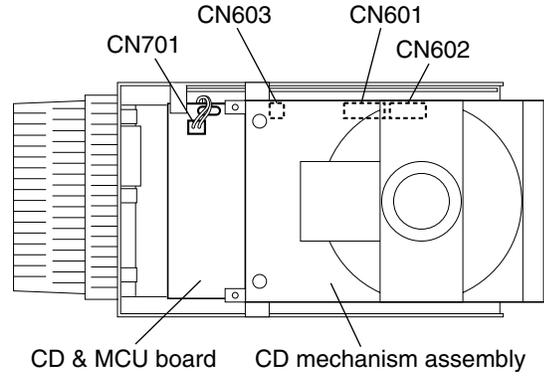

Fig.13
■ Removing the CD mechanism assembly (See Figs. 13 to 15.)
(See Fig.13.)